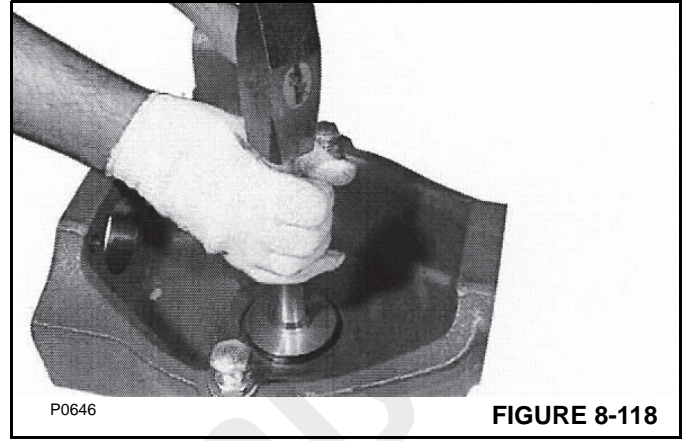

FIGURE 8-118
1. Install the bushing into the swivel housing with SPECIAL TOOL P/N 1901766 and a hammer or press (Figure 8-118).